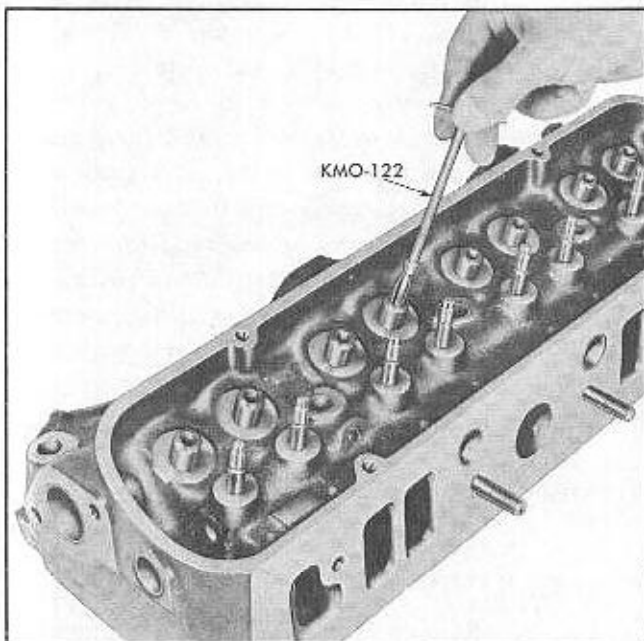

Fig. 6-42 Cleaning Valve Guide
5. Clean valve guides thoroughly using Valve Guide Cleaner KMO-122 (Fig. 6-42).